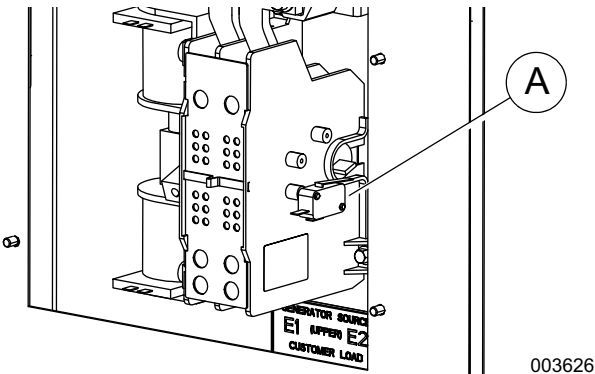

Figure 3-5. Auxiliary Contact
See Figure 3-5. If desired, there is one normally-closed Auxiliary Contact (A) on the transfer switch to operate customer accessories, remote advisory lights, or remote annunciator devices. A suitable power source must be connected to the common terminal. If needed, an extra auxiliary contact can be added.